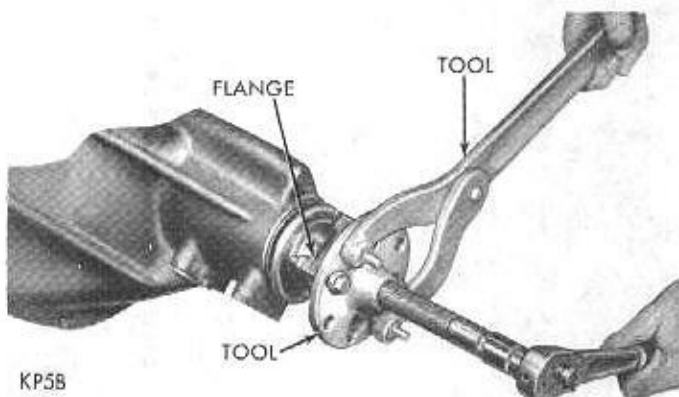
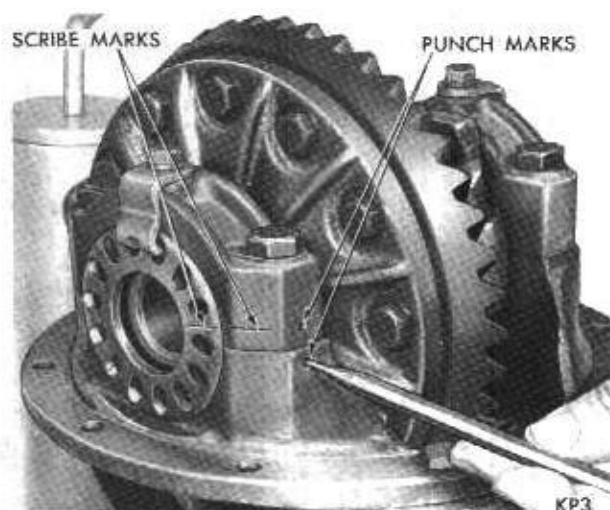

Fig. 16—Removing Companion Flange
Fig. 17—Marking Bearing Caps and Adjusters
(3) With Tool C-3281 hold companion flange and remove drive pinion nut and Belleville washer.
(4) Install companion flange remover Tool C-452 and remove flange (Fig. 16).
(5) Using a screwdriver and hammer, remove the drive pinion oil seal from the carrier.
(6) While holding one hand over nose end of carrier, invert carrier in stand. The front pinion bearing cone, shim pack and bearing spacer (where used) will drop from carrier.
(7) Apply identifying punch marks on differential bearing pedestals of carrier, differential bearing caps and bearing adjusters for reassembly purposes (Fig. 17).
(8) Remove both differential bearing adjuster lock screws and locks.
(9) With a 3/4 inch socket, loosen bearing cap bolts (one on each side) and back off bearing adjusters slightly using spanner wrench Tool C-406A; to remove differential bearing preload. Remove bearing cap bolts, caps and bearing adjusters.